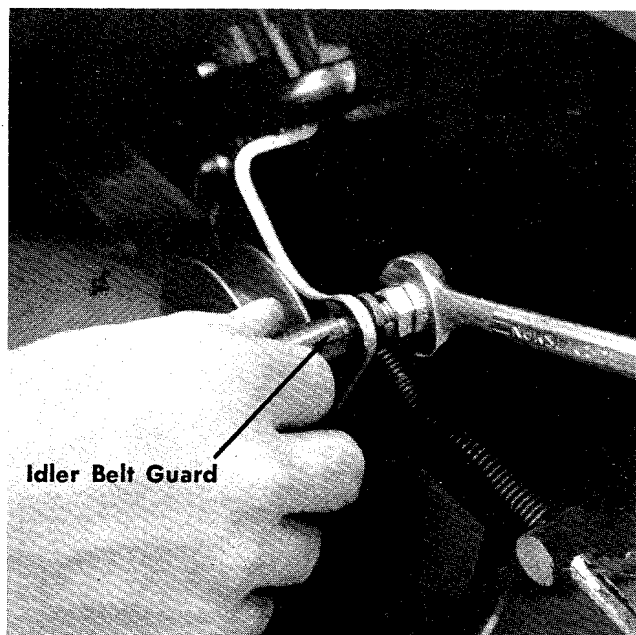

FIGURE 16. IDLER BELT GUARD
- k. Remove the idler belt guard. See figure 16.
c. Parking Brake. To set the parking brake, pull the parking brake lever back and hold it in the locked position while moving the locking arm to the left. See figure 16.